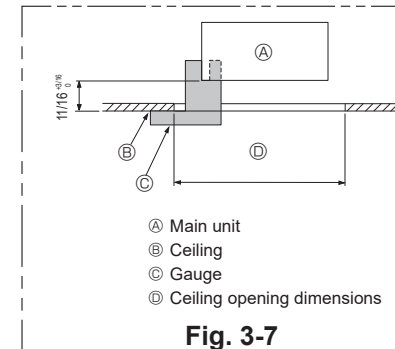

Fig. 3-7
- Make sure that A is performed within 17-22 mm, 11/16 to 3/4 inch. Damage could result by failing to adhere to this range. (Fig. 3-7)